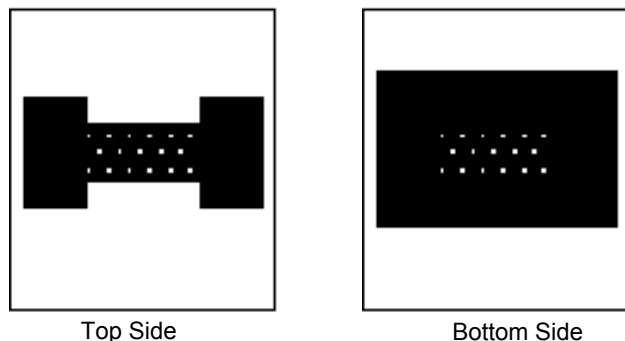
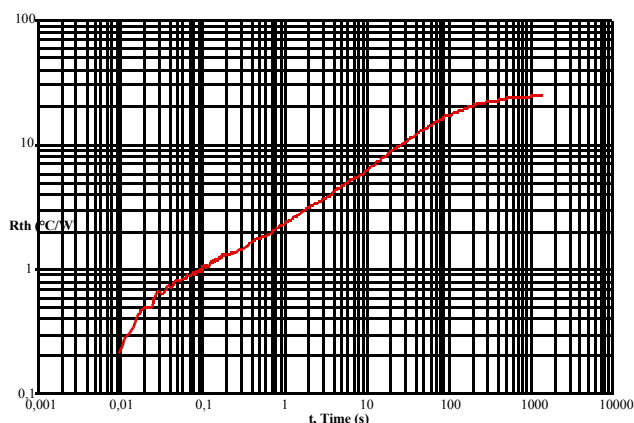

Figure 19. PCB Test Layout
Figure 20. 33887 Thermal Response
**Example** Characterization on a double-sided PCB: bottom side area of copper is  $7.8\text{ cm}^2$ ; top surface is  $2.7\text{ cm}^2$  (see Figure 19); grid array of 24 vias  $0.3\text{ mm}$  in diameter.
Figure 20 shows the thermal response with the device soldered on to the test PCB described in Figure 19.